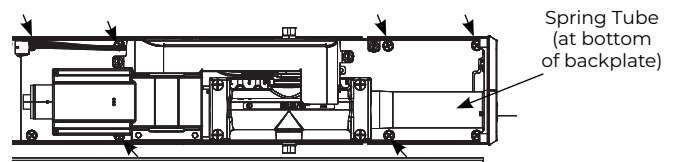

Figure 12 Remaining LAP Mounting Screws - Right Door View
4. For each LAP, use six (6) 1/4-20 x 1/2" Phillips head screws to secure. (Figure 12)